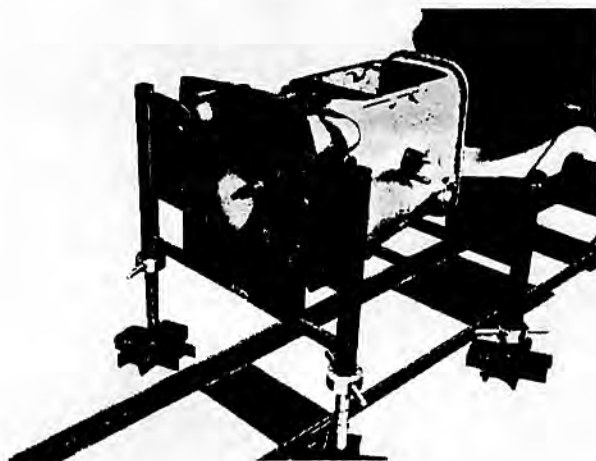

FIG. 12
7. Remove clutch release fork and bearing as detailed in J-3a, and remove keyed combined brake arm and slide out combined brake cross-shaft, completely with pedals, from right-hand side (See Fig. 12).